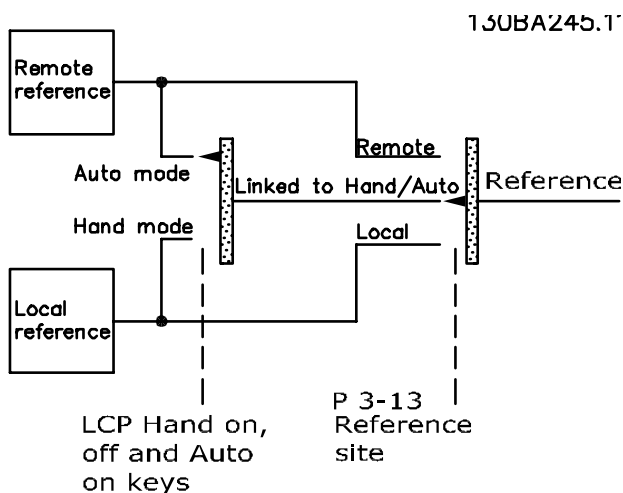

Figure 2.13 Active Reference
- *Figure 2.13* illustrates the configuration mode resulting from active reference selection, either local or remote.